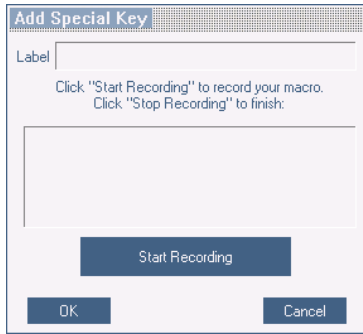

Figure 24 The Add Special Key box
3. To Record or Edit a Key Sequence, press **Record New**. The Add Special Key box appears see Figure 24.